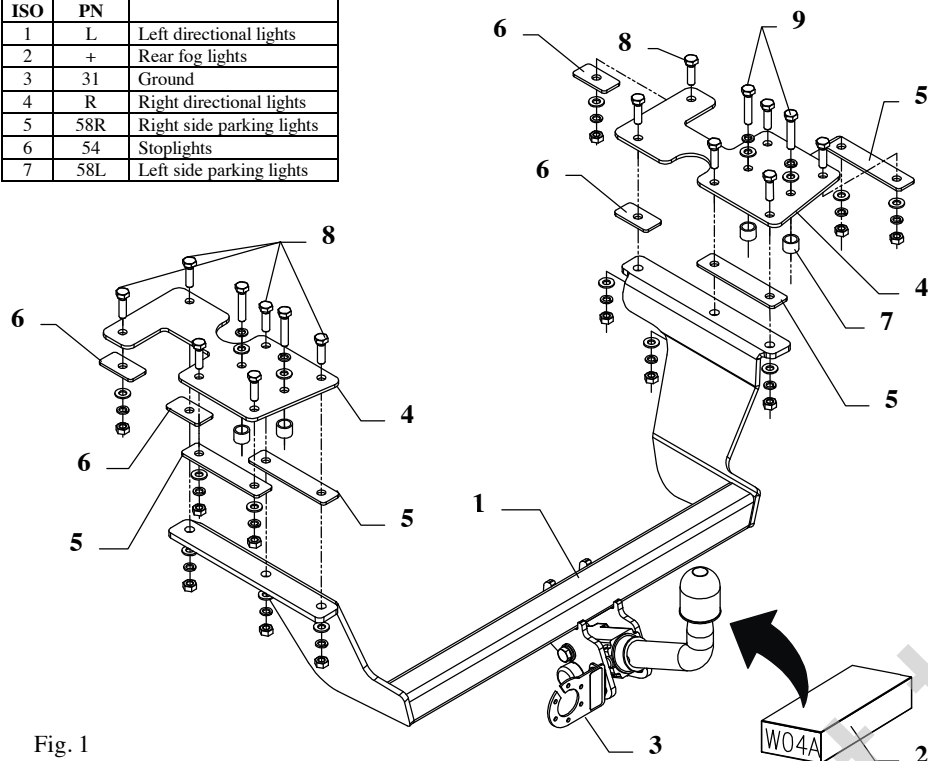
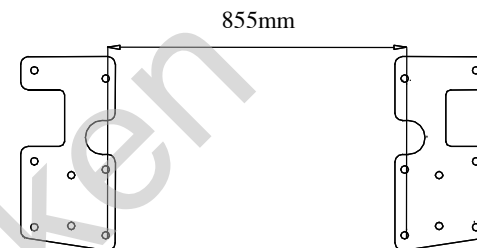

Fig. 1
Fig. 2
- Apply fish-plates (pos. 4) such way, so holes, in which enter bolts M10x1,25x50mm (pos. 9) overlapped on holes, which were previously unscrewing bolts fastening arms of the bumper. Then marked the contour of fish-plates and after this put aside fish-plates – inside contours remove the anti-noise layer. Put fish-plates (pos. 4) in this way, so holes for bolts M10x1,25x50mm (pos. 9) agree with holes after disassembly of towing hitch brackets. Mark contour of the fish—plates, next take them of and remove protective layer from inside of contour.
- On holes fastening arms of the bumper put distance sleeves L=16mm (pos. 7). Then apply again fish-plates (pos. 4) and fix with bolts M10x1,25x50mm (pos. 9) as showed on the fig. 1.
- Attention! Make sure whether fish-plates lay as one showed on the fig. 2.**
- By remaining holes of fish-plates (pos. 4) drill through holes $\phi 10,5$ mm. Then into all holes insert bolts M10x35mm (pos. 8).
- From the bottom of the car on protruding bolts put distance washers (pos. 5 and 6) and the main bar of the towing hitch (pos. 1) and fix as showed on the fig. 1.
- Fix body of the automat and place tow-ball according to supplied instruction. Note! Remember to place socket plate (pos. 3) as shown on the drawing 1.